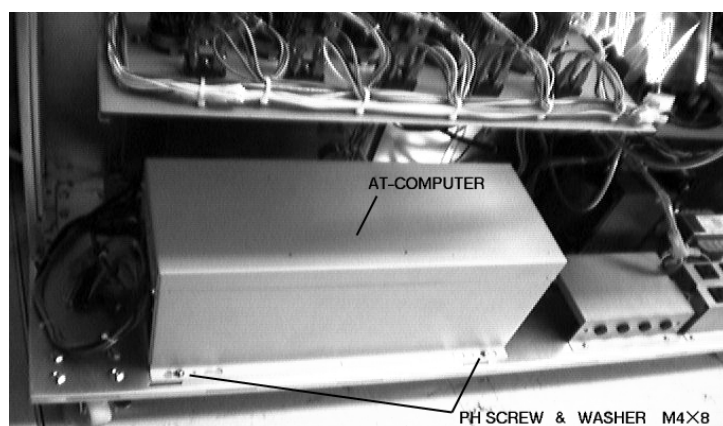

Fig. 18
5. Place the AT computer in the AT box to screw it. Refer to Fig. 18.